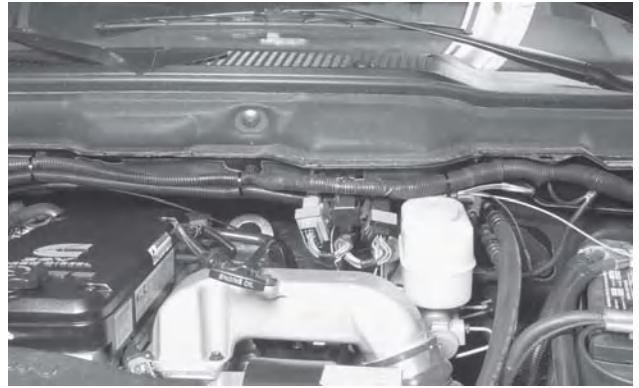

Fig. 13a
- f. The harness should be oriented so that the end with the relay is located on the passenger side of the engine compartment and the end with the fuse-holder is located on the driver side of the engine compartment. (See figure 13a)